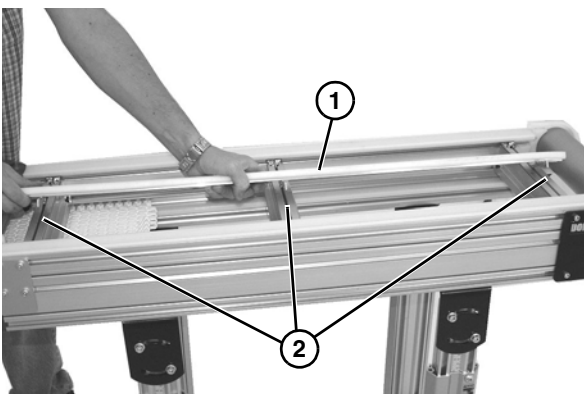

Figure 29
4. Remove center frame channel (**Figure 29, item 1**), making sure to keep each clamp matched with channel of each cross member (**Figure 29, item 2**).